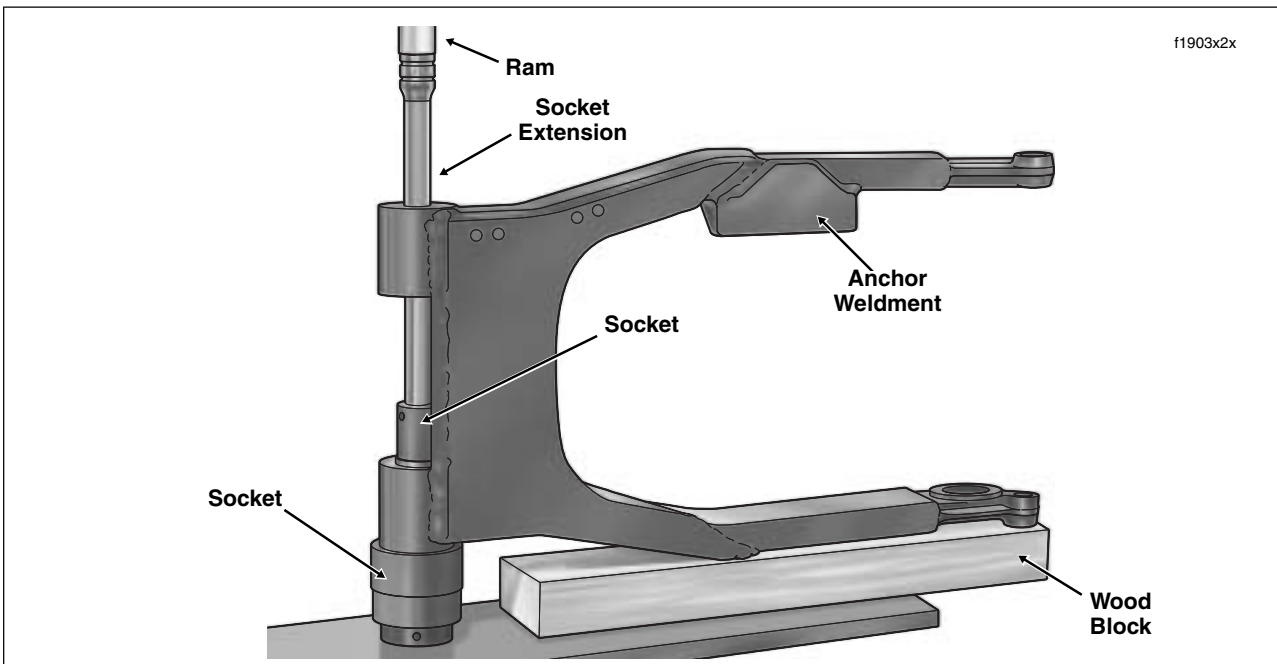

Figure 2-98. Press Out Drive Side Bearing
3. Support the swingarm with a block of wood and a large socket as shown in Figure 2-98. Verify that assembly is square and the bearing bore is completely vertical.